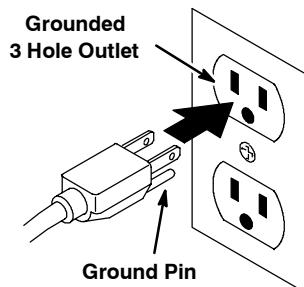

FIG. 19
- Connect the charger's AC power supply cord to a properly grounded receptacle (Figure 19).